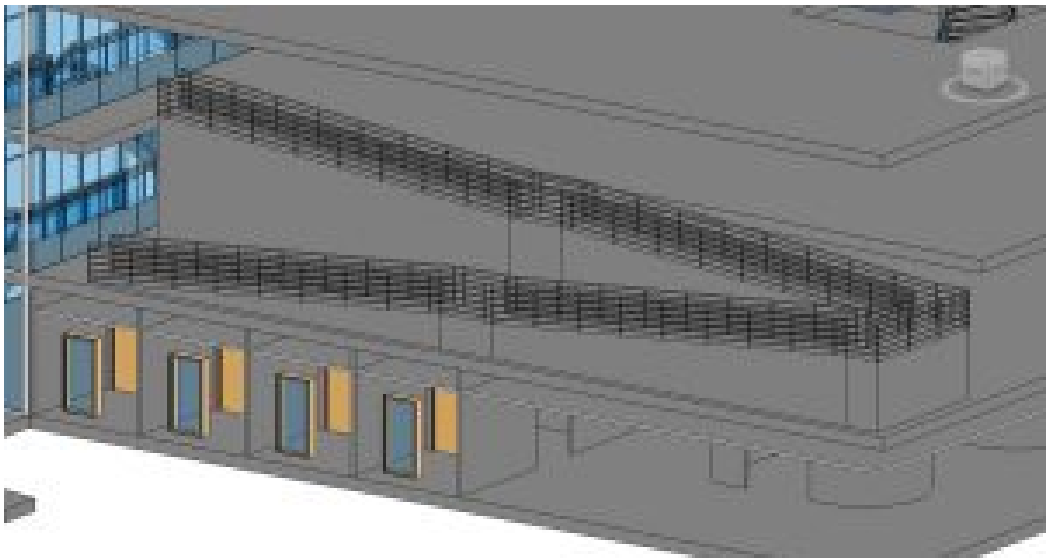

Figure 4.18 Completed ram shown in 3D view with 2 walls hidden
11. Use the Move tool  to move the ramp into the corner as shown in Figure 4.18